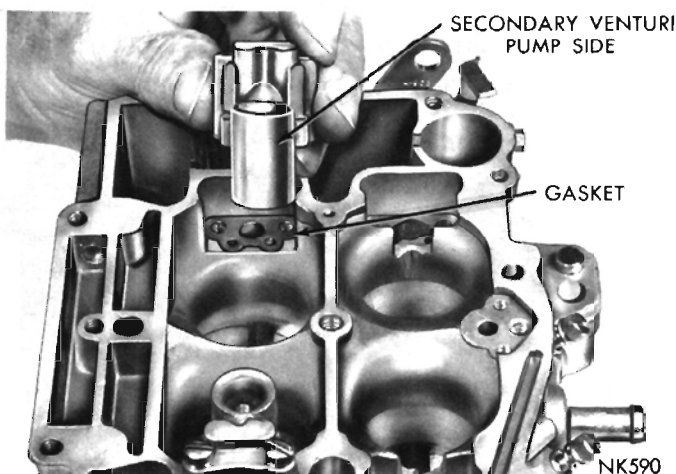

Fig. 6—Removing or Installing Secondary Venturi Cluster
(5) Remove screws that attach secondary venturi (choke and pump side) to main body. Lift secondary venturi assemblies straight up and away from the body, as shown in (Fig. 6). Remove velocity valves (if so equipped.)
(6) Using Tool T109-59, screw driver bit, remove accelerator pump intake check valve located inside fuel bowl, adjacent to the accelerator pump cylinder.